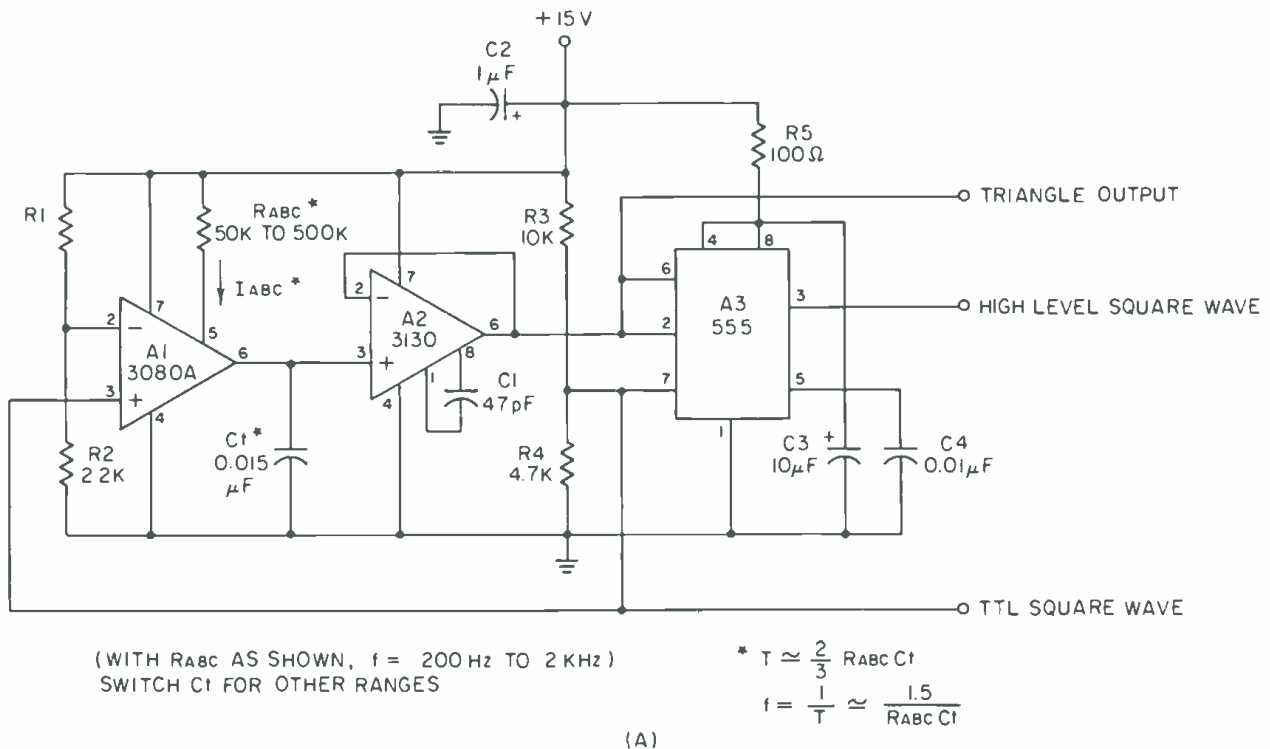

Figure 7(A). Wide range single supply function generator. a: Basic generator.
The example shown in FIGURE 7(A) is frequency programmed via  $R_{ABC}$ , which can be either switch-selected
FIGURE 7(B) shows an option, which when added to the basic circuit, converts it into a linear voltage-controlled version. By applying a control voltage  $E_c$  to  $R_{ABC}$ , the frequency can be varied linearly via a pot across the +15 V line. Thus the circuit is a voltage-controlled oscillator, or vco.